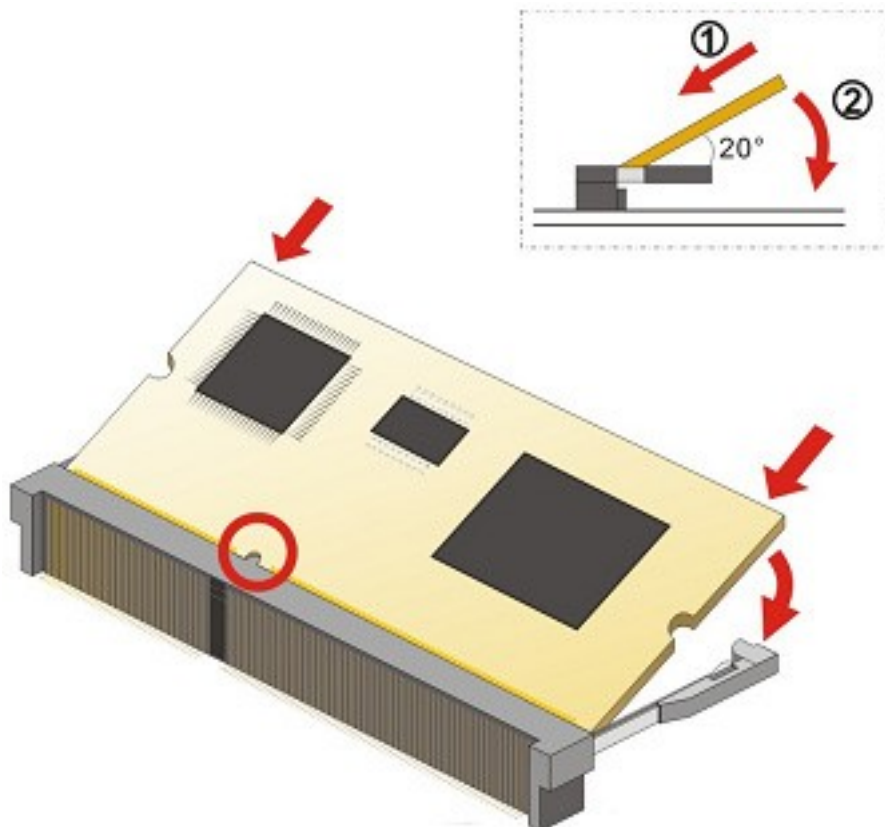

Figure 4-7: iRIS-2400 Module Installation
To install the iRIS-2400 module, please follow the steps below and refer to Figure 4-7.
- Step 3:** Insert the iRIS-2400 module. Push the module in at a 20° angle (Figure 4-7).
- Step 4:** Seat the iRIS-2400 module. Gently push downwards and the arms clip into place (Figure 4-7).